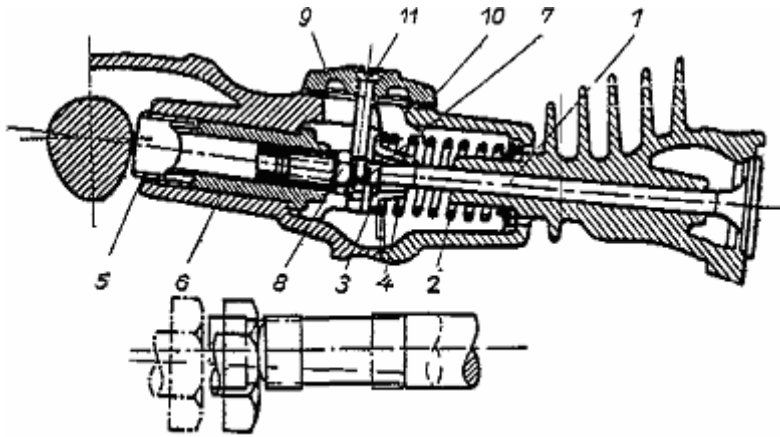

Fig 9
1. To be removed the screw 11 (fig. 9) is to be solved and the covers as well as the seal. 2. The crankshaft is to be turned, until the intake valve closes. (between the tappet and the shank of the exhaust valve a play must be clearly visible.) In this position the play of the exhaust valve is to be adjusted.